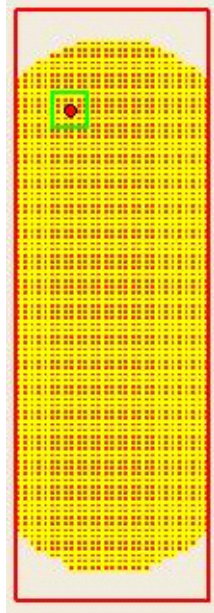

Figure 80 Use the mouse to drag the green-box cursor and to move the flowcell stage the same way.
4. Use the mouse to drag the green-box cursor to a position on the upper-left side of the slide. Dragging the green-box cursor moves the flowcell stage to that corner of the slide (see Figure 80 on page 133).